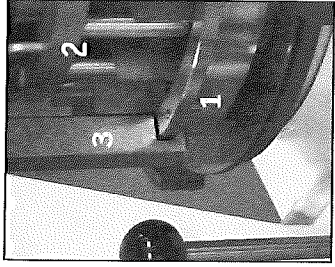

Figure 16
6. Set ring (Fig 16, No. 1) on center of pallet.
7. Lower handle slowly and align ring (No. 1) with head (No. 2) continue down with handle, align ring slots with arms (Fig. 16, No. 3).